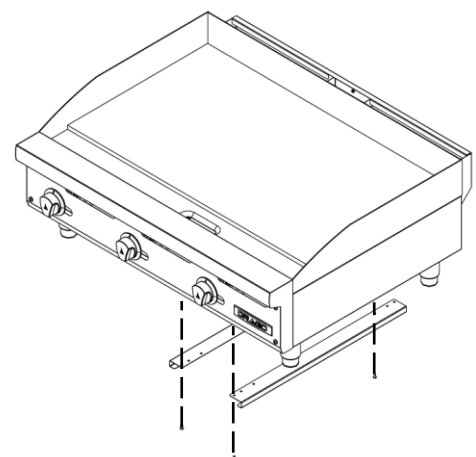

Fig. 2
2. Install the guides for the crumb tray under the equipment, secure with 2 screws each. (Fig. 2).